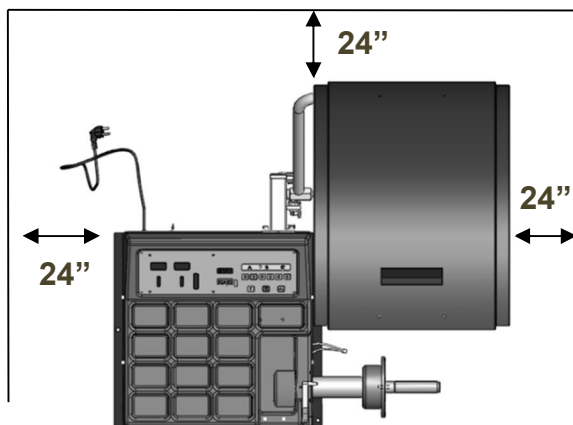

Fig. 3.
- Ensure to install the machine based on the **calculated work area diagram** requirements for proper safety & operation. **Fig. 3.**